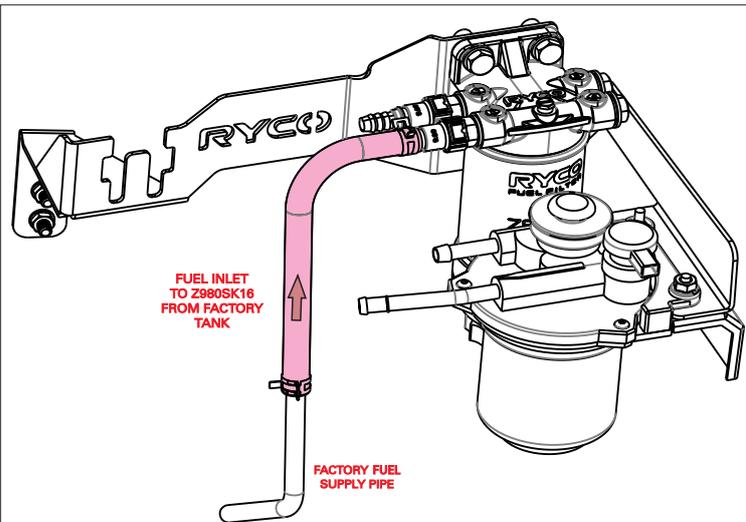

FIG. 6 FUEL INLET HOSE ROUTING
5. Mount the Z980SK16 fuel filter assembly onto the metal bracket using the two (2) black M10 bolts and washers supplied with the Z980SK16.
6. Locate the factory fuel inlet hose at the factory fuel filter. Loosen the factory fuel hose clamp and disconnect the fuel supply line from the factory filter. Have a rag ready to capture any diesel that may spill out of the fuel line and the fuel filter inlet pipe. Connect the factory fuel inlet hose to the Z980SK16 inlet fitting, and secure with a fuel hose clamp. See Fig 6 for inlet hose routing.